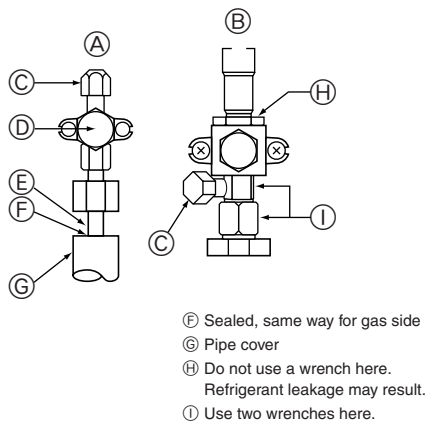

Fig. 4-5
- ① Perform refrigerant piping connections for the indoor/outdoor unit when the outdoor unit's stop valve is completely closed.
- ② Vacuum-purge air from the indoor unit and the connection piping.
- ③ After connecting the refrigerant pipes, check the connected pipes and the indoor unit for gas leaks. (Refer to 4.4. Refrigerant pipe airtight testing method)
- ④ A high-performance vacuum pump is used at the stop valve service port to maintain a vacuum for an adequate time (at least one hour after reaching -101 kPa (5 Torr)) in order to vacuum dry the inside of the pipes. Always check the degree of vacuum at the gauge manifold. If there is any moisture left in the pipe, the degree of vacuum is sometimes not reached with short-time vacuum application. After vacuum drying, completely open the stop valves (both liquid and gas) for the outdoor unit. This completely links the indoor and outdoor coolant circuits.
- ⑤ Use sealant to seal the ends of the thermal insulation around the pipe connection sections to prevent water from entering the thermal insulation.
4.4. Refrigerant pipe airtight testing method (Fig. 4-5)